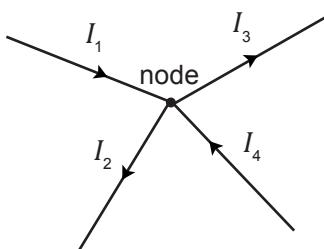

Figure 4.39 Node with four currents
- Currents entering a node are considered positive. In Figure 4.39, I_1 and I_4 are considered positive.
- Currents leaving a node are considered negative. In Figure 4.39, I_2 and I_3 are considered negative.
Hence, the equation for the node in Figure 4.39 is written as: